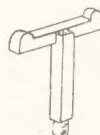

Fig. 3—The T support
The upright T-shaped supports are made in two parts, as seen at (H) and (I) on the pattern sheet. Wood $\frac{1}{8}$ in. thick would answer for these three additions which are let into the centre of the keel piece of the hull, see also Fig. 3. The mast is 6 ins. long and is made and shaped from $\frac{1}{8}$ in. round rod. It must not taper much towards the top, as can be seen in the sketch Fig. 1.